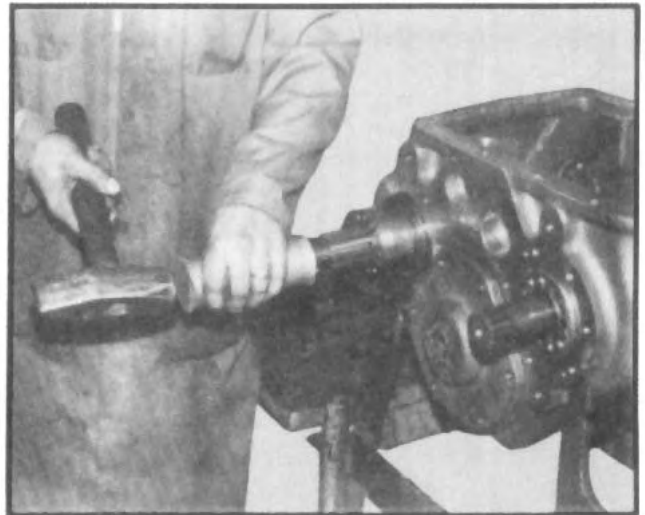

Fig. 5
2. Remove snap ring from stem gear double-row ball bearing and tap the rear of the stem gear shaft with a soft hammer, using care not to damage threads. Tap the entire lower shaft and stem gear assembly toward the front of the housing until front output shaft bearing is free from housing (See fig. 5). Separate the output shaft from stem gear single-row ball bearing. Withdraw output shaft from housing and at the same time, remove the clutch gear from the output shaft.